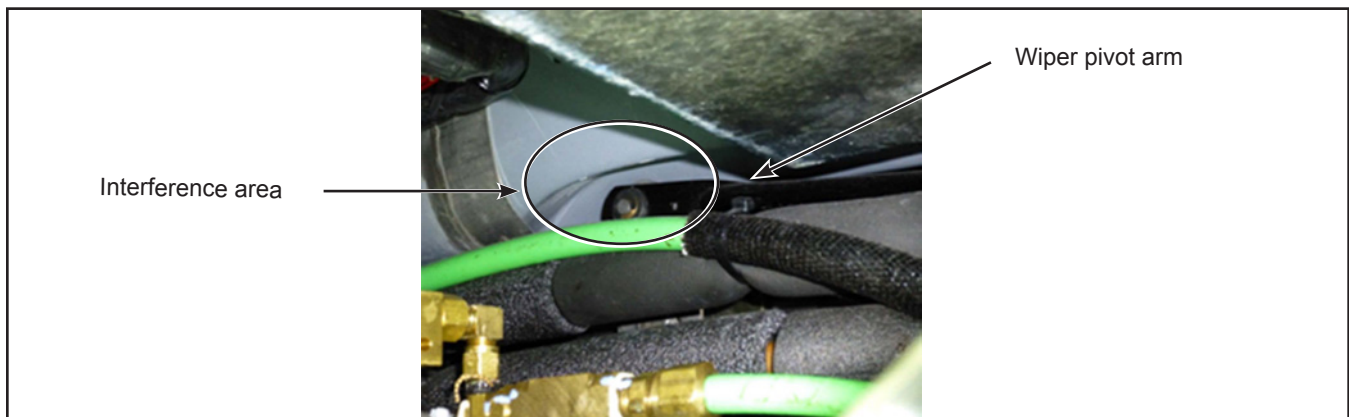

Figure 2 - Wiper Pivot Mechanism
- 1.4. Visually verify if the wiper's central pivot mechanism interferes with the underside of the dash. See Figure 2.